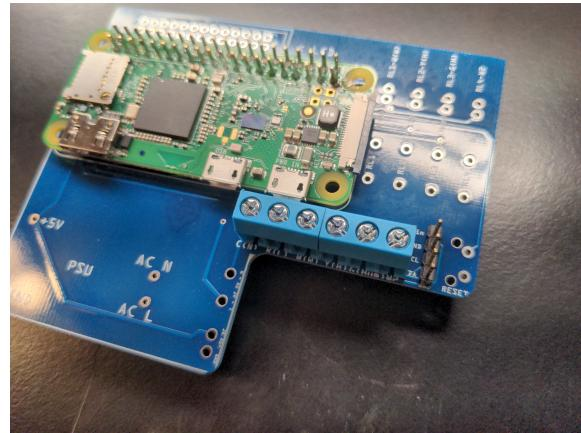

Figure 9: Terminal block and sensor headers in place
3. Put terminal block and sendor headers in place and solder them on (figures 9 and 10)